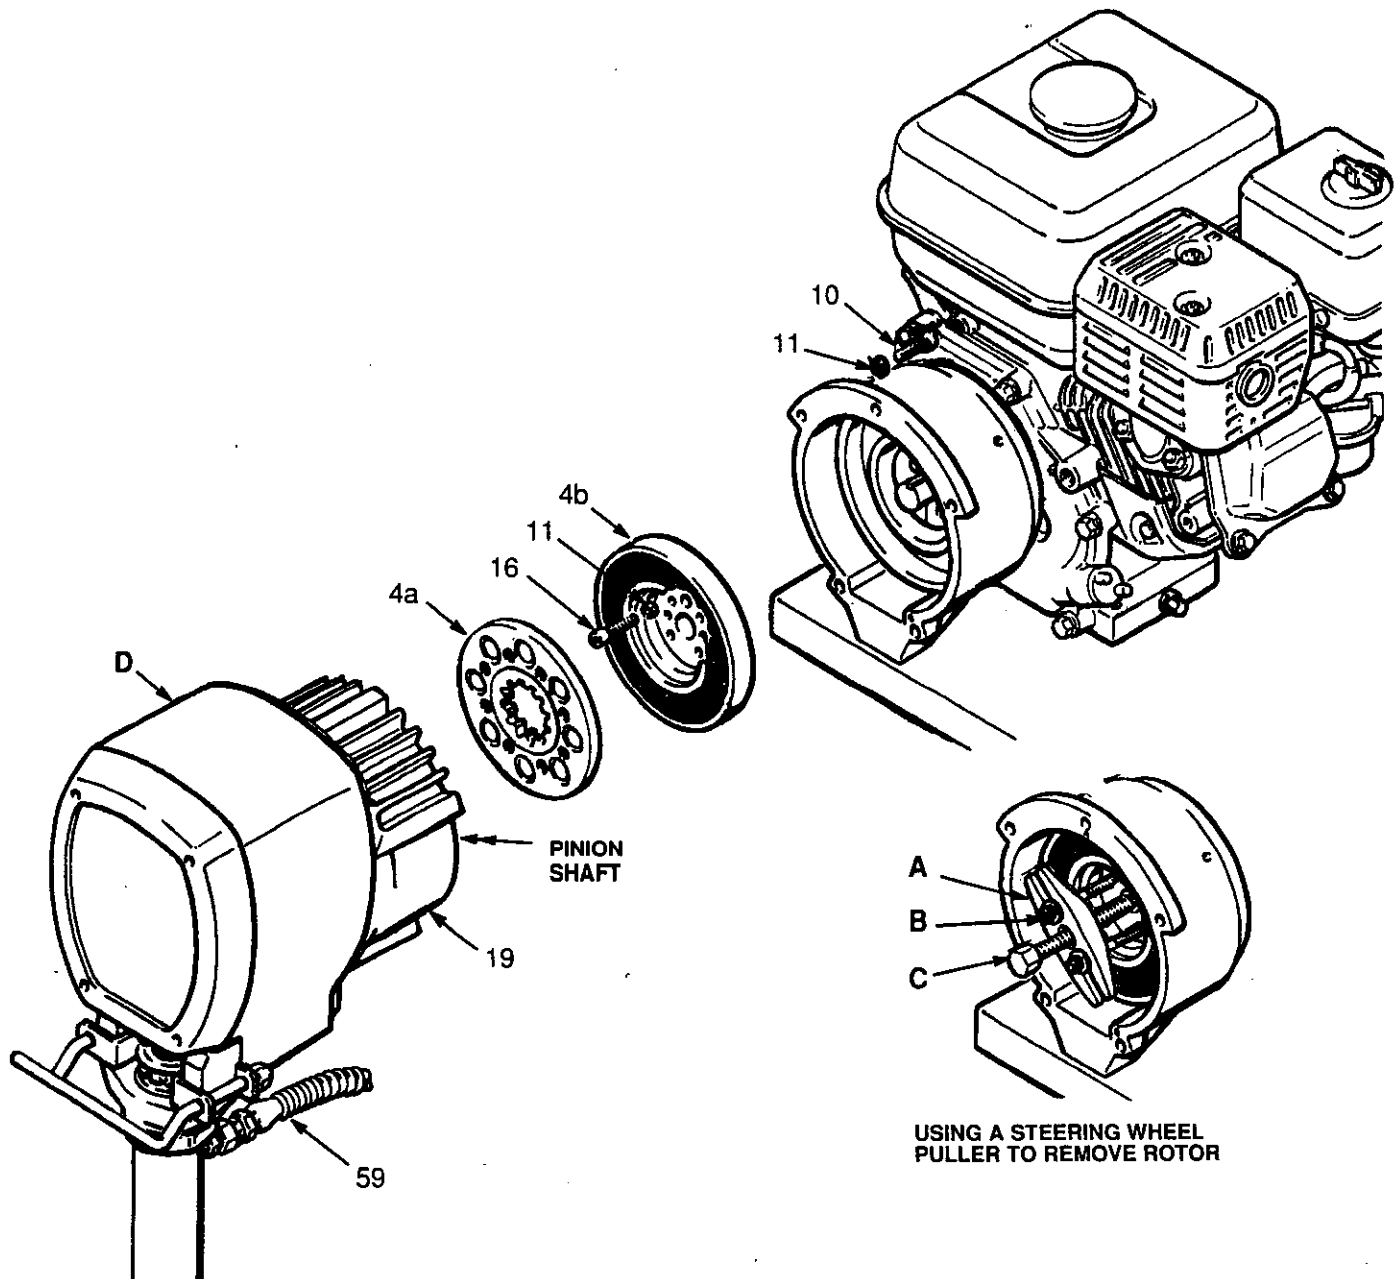

Fig 28-1
2. Disconnect the hose (59) from the displacement pump.
3. Removing the bottom two screws first, remove the five screws (10) and lockwashers (11) from the front of the clutch housing (2).
4. Tap lightly on the back of the bearing housing (21) with a plastic mallet to loosen the assembly (D) from the clutch housing. Pull the assembly away.
- a. Remove the four socket head capscrews (16) and lockwashers (11). Install two of the screws in the threaded holes in the rotor. Alternately tighten the screws until the rotor comes off. See Fig 28-1.
- b. You can use a standard steering wheel puller. However, you need to provide two screws (B), size 1/4-28 x 3 or 4 in. long. Install the four screws and lockwashers (B) of the tool (A) in the threaded holes of the rotor. Tighten the capscrew (C) of the tool until the rotor comes off. See the detail in Fig 28-1.